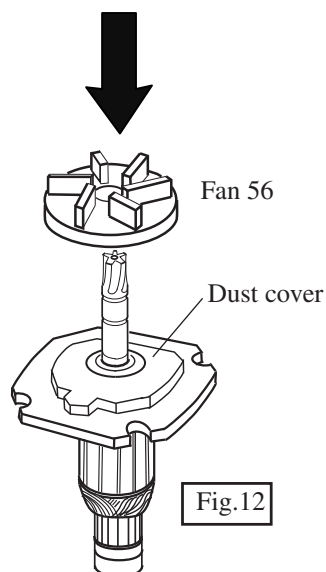

Fig.12
- (3) Press fan 56 as illustrated in Fig.12.